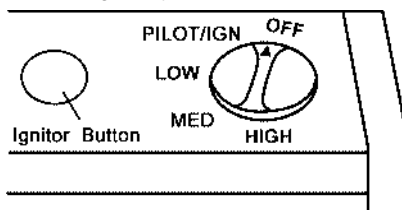

Figure 19 - Control Knob In The OFF Position
3. Push in control knob slightly and turn clockwise ↻ to the OFF position.(see Figure 19)
5. Push in and turn control knob counterclockwise ↺ to PILOT position. Press in control knob for five(5) seconds.